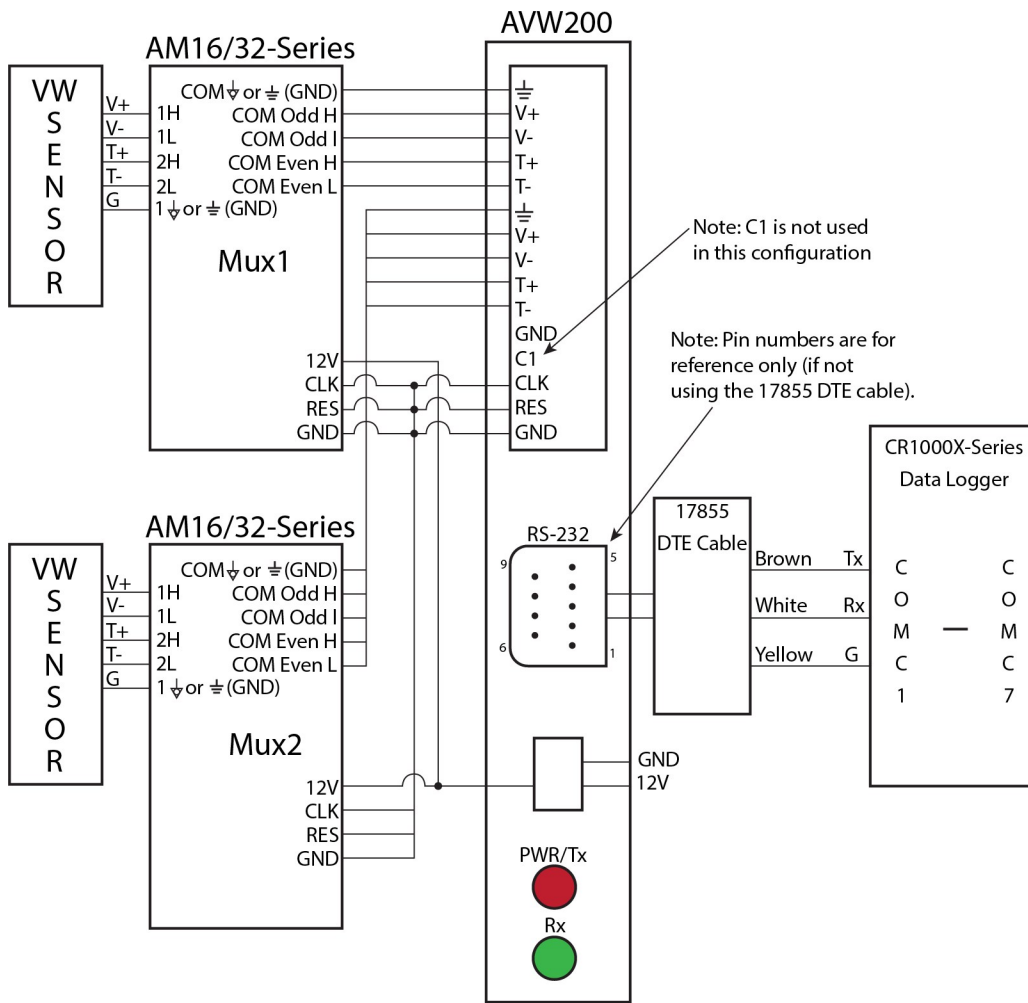

Figure 7-4. Example AM16/32-series to AVW200 hookup (multiplexers controlled by AVW200)
3. Attach the multiplexers to the AVW206 as shown in Figure 7-4 (p. 30).
For most applications, having the AVW200 control the multiplexer is preferable. A CABLE4CBL or MUXSIGNAL cable connects to the multiplexer **COM** terminals, and another CABLE4CBL cable or the MUXPOWER cable connects to the multiplexer **CLK** and **RESET** terminals (see Figure 7-4 [p. 30]).